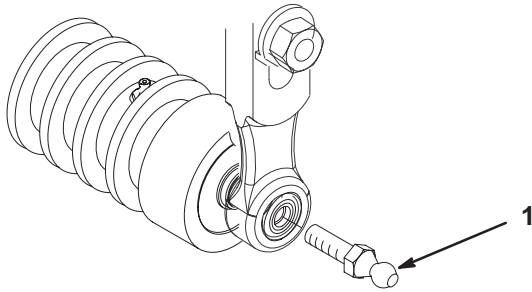

Figure 17
- G. Install the motor mount to the left end of the cutting unit with the (2) allen head screws previously removed. Torque screws to 12-15 ft-lbs. (16-20 N-m).
4. Thread a ball stud into each end of the cutting unit front roller (Fig. 17).